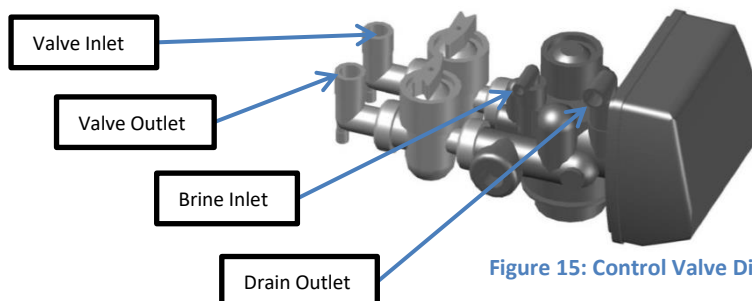
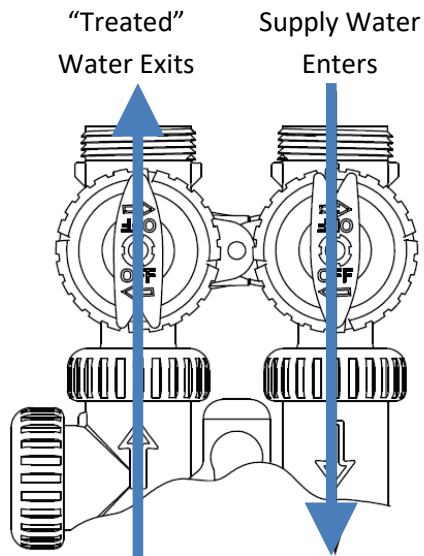

Figure 15: Control Valve Diagram
Figure 27:
1. Pipe or tube a line from each Control Valve Drain (Figure 15) to the drain. Refer to section 9 for the proper sized drain line. Put the bypass control valve into bypass operation shown in figure 27.